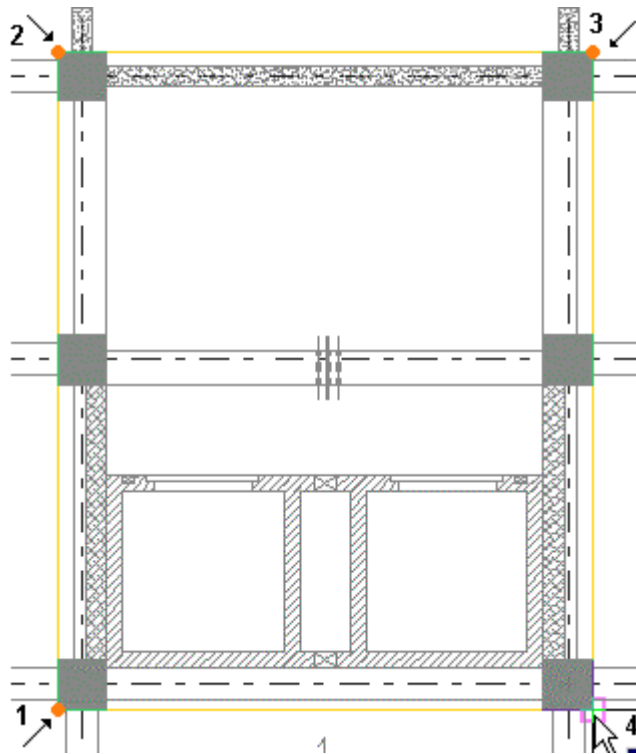

Figure 183: Setting the points of the slab creation
3. Input the slab corners, point by point as in Figure183.